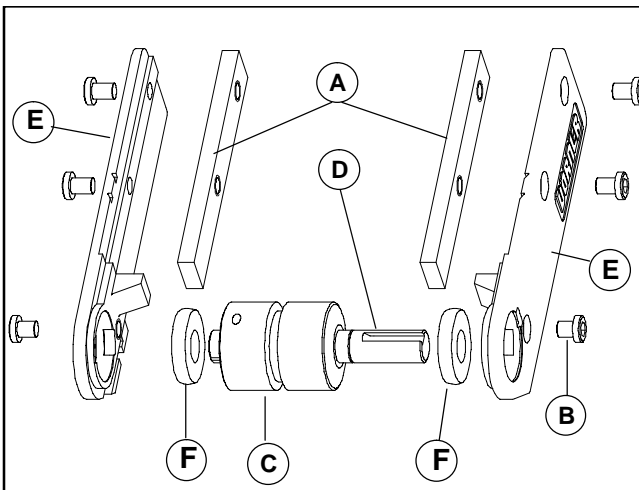

Figure 3
1. Typical components (Figure 3)
3. Determine required orientation for output shaft (D of Figure 3).
4. Insert slide bars (A of Figure 3) into 2100 frame.